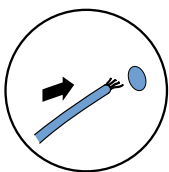

fig. 1.3 Hanging a motorized awning
- Hang the awning in the wall supports. See figure 1.3 for electrical control or 1.4 for strap control.